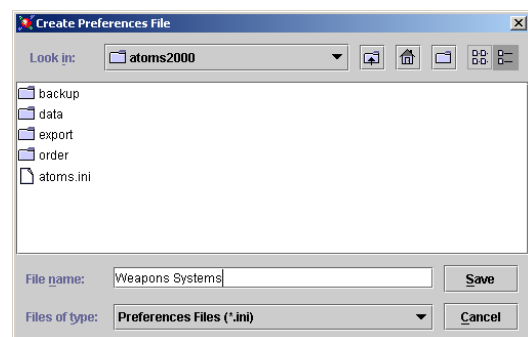

Figure 4-33. Create Preferences File
- 1) From the splash screen, select **File, Multiple TODO Accounts, New TODO Preferences**. The Create Preferences File window appears (Figure 4-33).
In Figure 4-33, the example of a new TODO account file name is **Weapons Systems**, but any valid Windows name will do. If the different databases are to be different TODOs, one suggestion would be to use the TODO code as the file name.